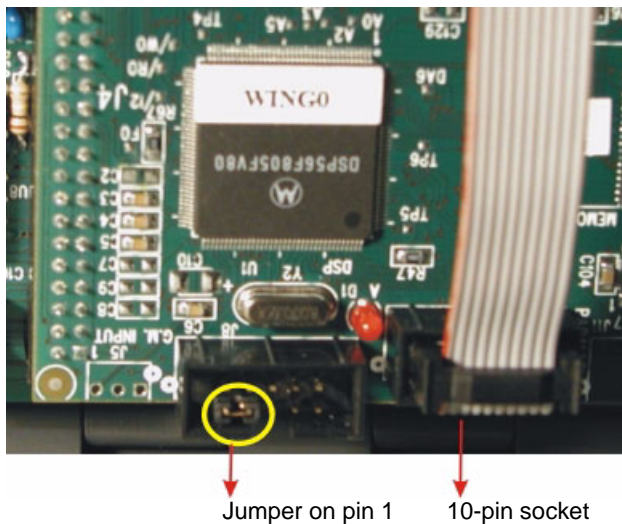
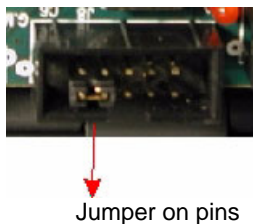

Figure 4: Wing card showing the jumper location and the 10-pin cable socket
Figure 5: Jumper location detail
- 3 Connect the 10-pin cable to the 10-pin socket, on the editor card, located on the right (Figure 4).
- 5 Plug the jumper into pin 1 in the left socket on the Wing 0 card. Be careful not to bend the pins (Figure 4 and Figure 5).